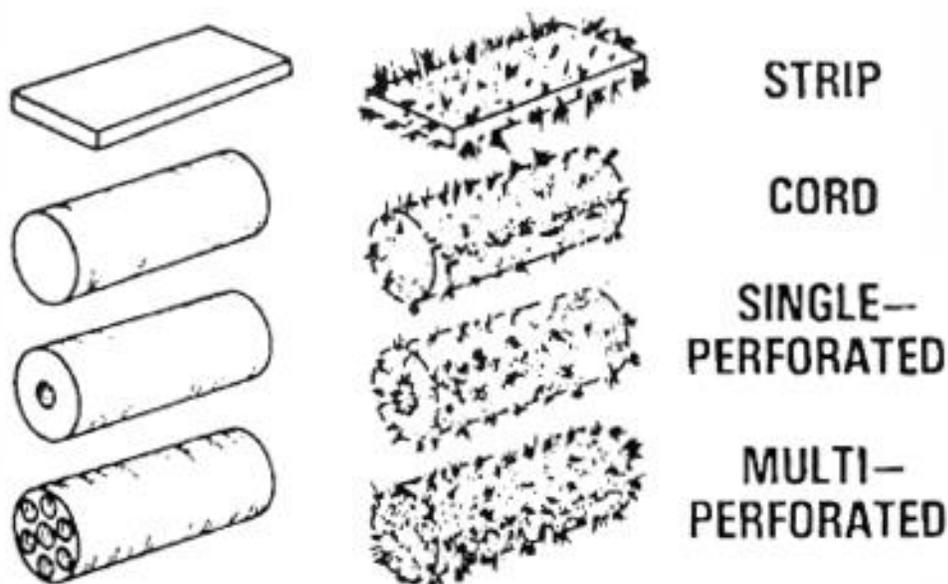

Figure 1-8. Types of powder grain
c. **Propellants.** A propellant only burns on the surface. The burning progresses as though the powder grain consisted of very thin layers--each layer burning and igniting the next layer. Under conditions of constant pressure, the burning progresses through the powder at a steady linear rate peculiar to the composition of the powder being used. The mass rate of burning of a propellant charge is determined by the physical form of the powder grain. Thus, through control of the form of the powder grain, the ballistic effect of a propellant charge is determined and kept within certain limits. Basically, the greater the capacity of the powder chamber, the larger the size of the powder grain used (Figure 1-8).
(1) **Forms of powder grain.** Powder grain used in current field artillery cannons are the single-perforated and the multiperforated propellant powder grains (Figure 1-8).